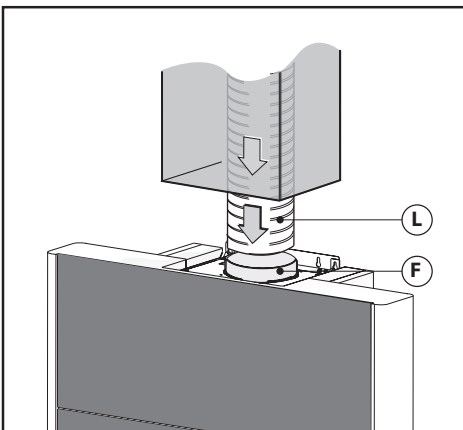

Fig.10
- Connect flange **F** to the air exhaust hole using flexible hose **L** (Fig.10).